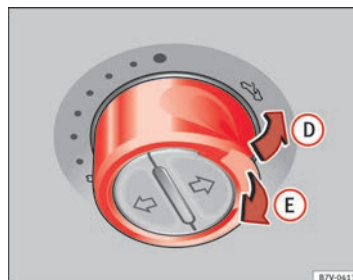

Fig. 59 On the interior roof lining: Press the button and pull on it to lift and close the sliding sunroof.
⇒ Fig. 59
- *Panoramic sliding sunroof*: Within five seconds of triggering the anti-trap function, pull the control all the way back ⇒ Fig. 59 (arrow) until the panoramic sliding sunroof closes fully.